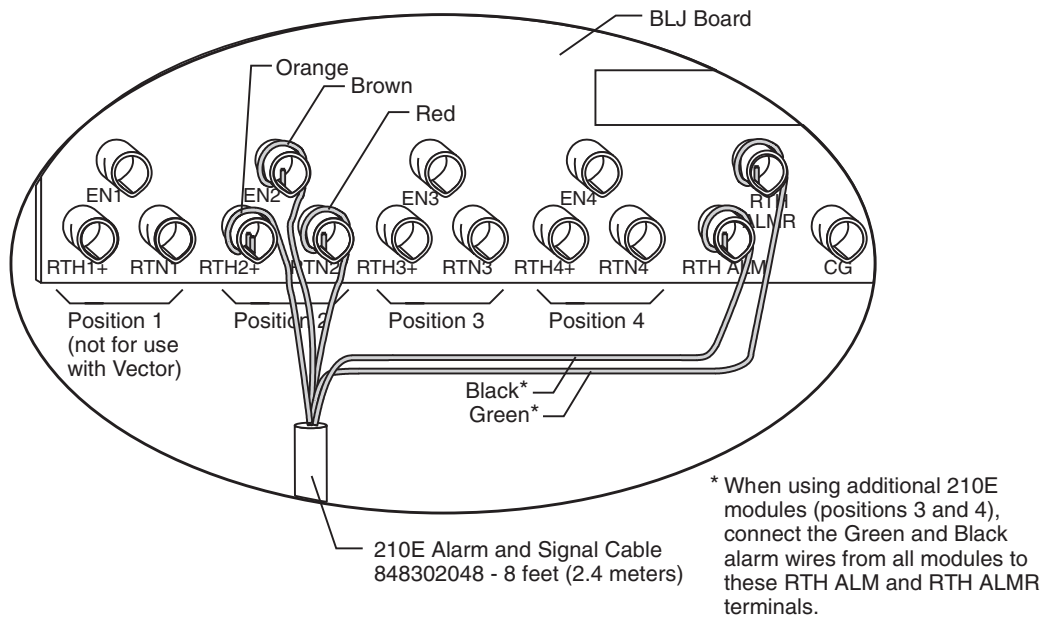

Figure 4-6: Alarm/Signal Cable Assembly Connections to Vector BLJ Board
1. Connect an Alarm/Signal Cable Assembly (848302048) from J1 and J4 of the 210E to the BLJ board of the Vector controller as shown in Figure 4-6.
2. To connect a second and/or third 210E, connect to the next two positions on the BLJ board of the Vector controller (see Figure 4-6).